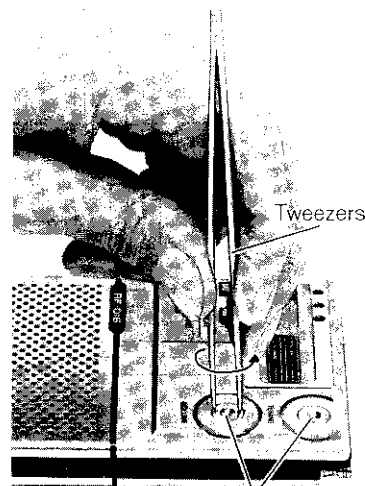

Fig. 5
2. Remove the tuning and volume controls knobs, by removing 2 screws (nos. 1 & 2) by rotating them counterclockwise. In the absence of a special tool for this purpose, you may use a pair of tweezers, or two small brads appropriately spaced in a short length of wood dowel, see fig. 5.